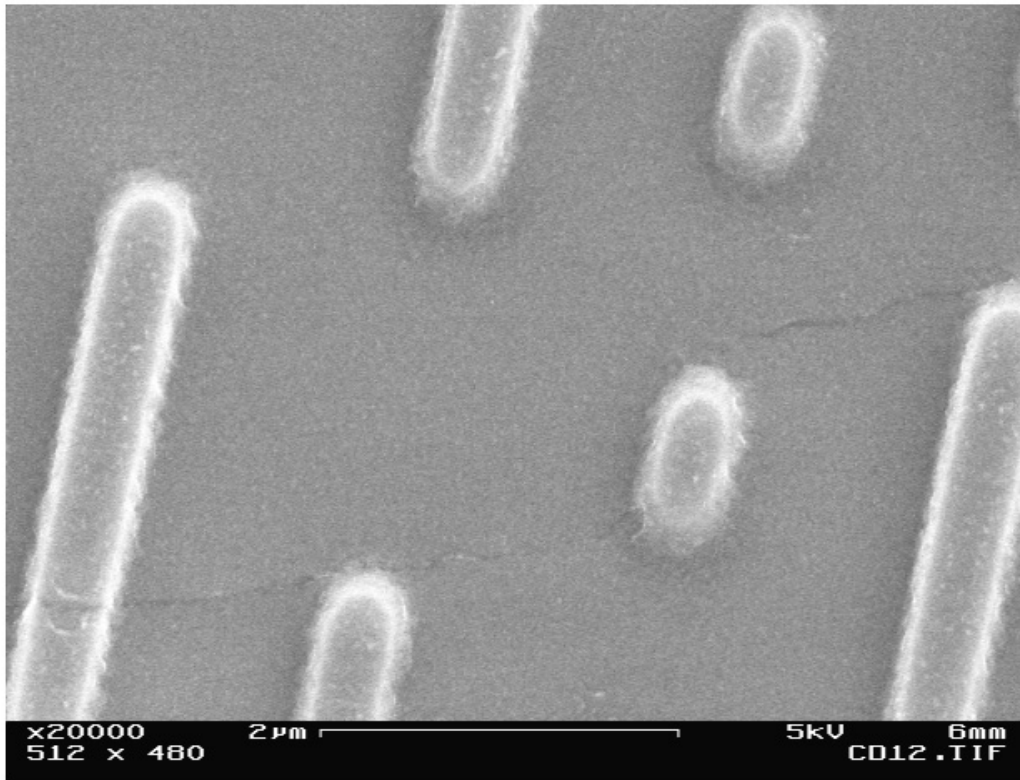

Figure 3: SEM image of a CD. The lighter features are pits. Note the scale.
Checkpoint 2.7: Figure 3 in Appendix A shows a CD imaged by a scanning electron microscope (SEM). Use the figure to determine the track pitch of a CD.
- A quantitative comparison between your experimental value and a value you found using Figure 3 in Appendix A